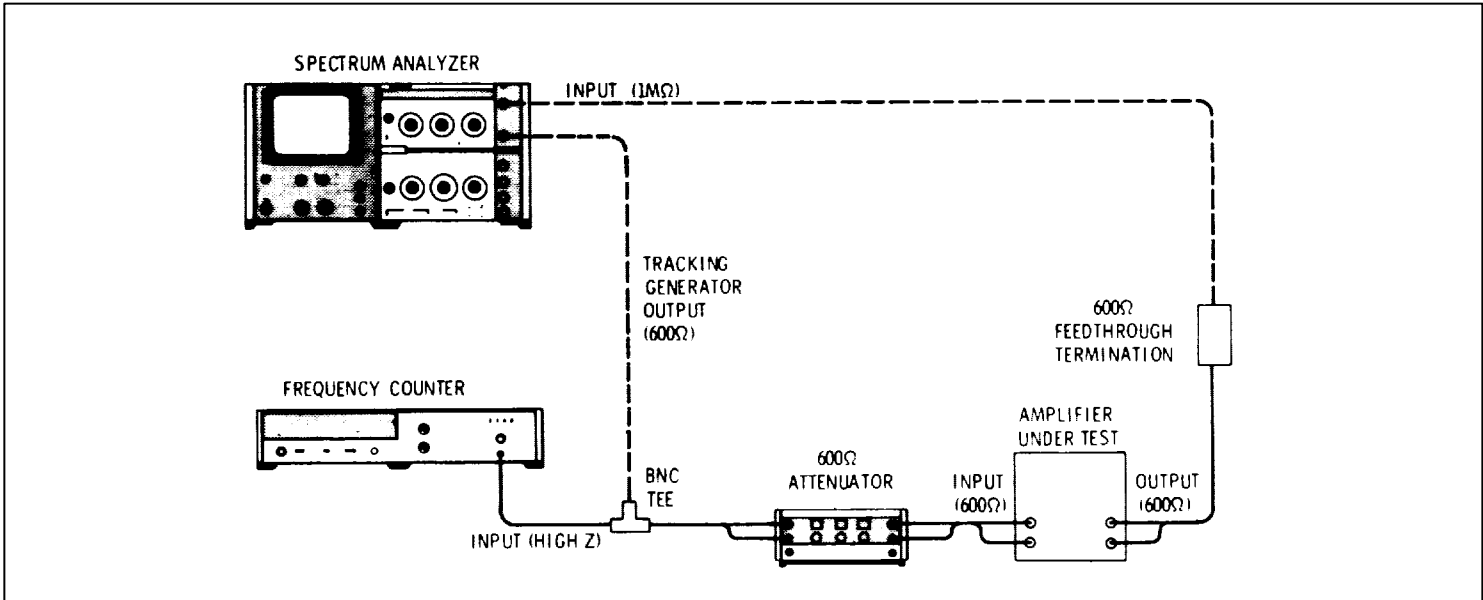

Figure 3-4. Typical Amplifier Frequency Response Measurement (in 600 Ohms) Using a Frequency Counter
**3-45. Testing Amplifiers.** When measuring amplifier frequency response, some provision must be made for the gain of the amplifier to prevent damage to the spectrum analyzer. A step attenuator should be added to the test setup to decrease the tracking generator level by a known amount (see Figure 3-4).
3-51. This same method may be applied to the measurement of points on a frequency response curve. Use a high impedance counter and connect it to the tracking generator's output on a tee with the test device (see Figure 3-4). Then manually scan to a point of interest on the response curve and read the frequency. This method is useful when measuring the 3 dB or 6 dB bandwidth of a filter, discontinuities in a response characteristic, or identifying spurious modes on a device.